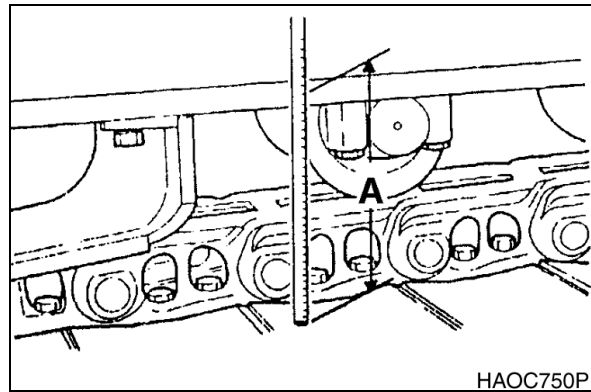

Figure 2
2. Measuring the distance (A, Figure 2) between the bottom of the side frame and the top of the lowest crawler shoe. Recommended tension for operation over most types of terrain is 380 - 430 mm (14.93 - 16.90 in)